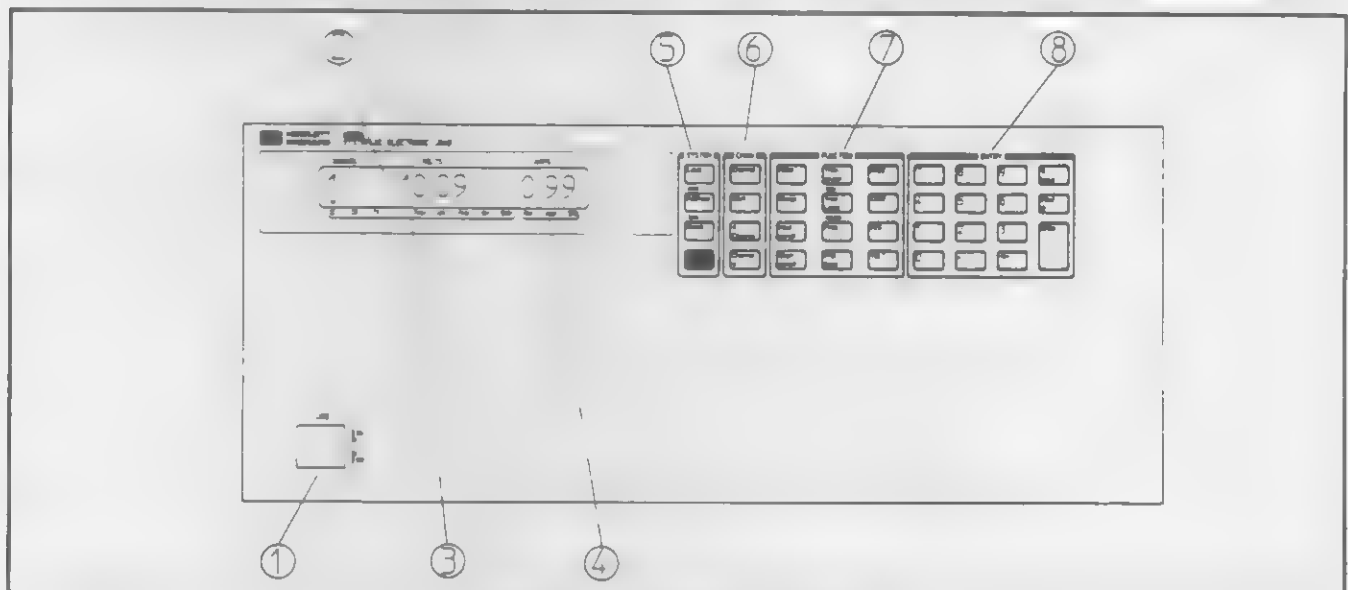

Figure 4-1. HP 6060A Front Panel
The Multiple Electronic Load can be programmed locally using the controls and indicators on the front panel. As shown in Figure 4-1, the front panel's controls and indicators include a 12-segment LCD display and a keypad having four groups of keys (SYSTEM, CHAN, FUNCTION, and ENTRY). Table 4-1 gives a brief description of each control and indicator.
2 LCD Display	Normally displays the selected input channel number and the actual voltage and current at that input, for example, "1 10 09 0 99" as shown in Figure 4-1. When programmed from the front panel, the channel number and the function being programmed are displayed. For example, "1 CURR 1.000" indicates that the channel 1 CURR function is set to 1.00 amperes.
3 Electronic Load Status Annunciators	<p>CC—Indicates the selected channel is in the constant current (CC) mode. Note that Figure 4-1 illustrates that channel 1 is in the CC mode (CC annunciator is on).</p> <p>CR—Indicates the selected input channel is in the constant resistance (CR) mode.</p> <p>CV—Indicates the selected input channel is in the constant voltage (CV) mode.</p> <p>Tran—Indicates that transient operation is enabled for the selected input channel.</p> <p>Unr—Indicates that the selected input channel is unregulated (applies only in the CC mode and in the middle and high ranges of the CR mode).</p> <p>Prot—Indicates when channel protection features (OC, OV, OP, OT, etc.) are active on any channel.</p> <p>Err—Indicates that remote programming error(s) have occurred.</p> <p>Shift—Indicates that the shift key, bottom key (blue) in SYSTEM group, was pressed.</p>